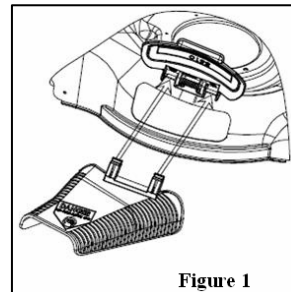

Figure 1
4. Side discharge function: please install the side Discharge Cover (Figure 1).